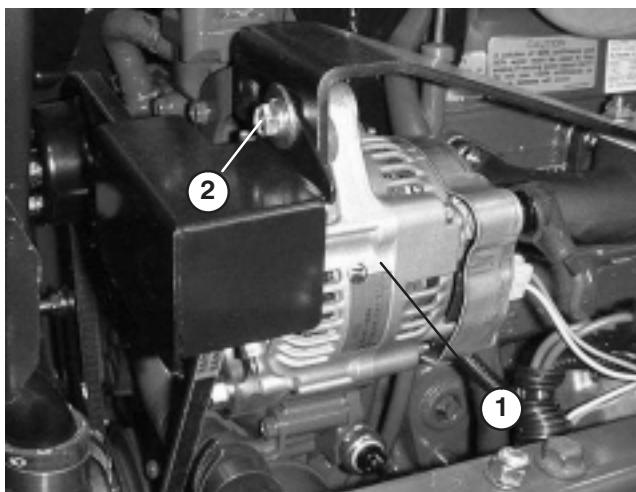

Figure 54
2. Proper tension will allow 3/8 in. (10 mm) deflection when a force of 10 lbs. is applied on the belt (Fig. 54) midway between the pulleys.